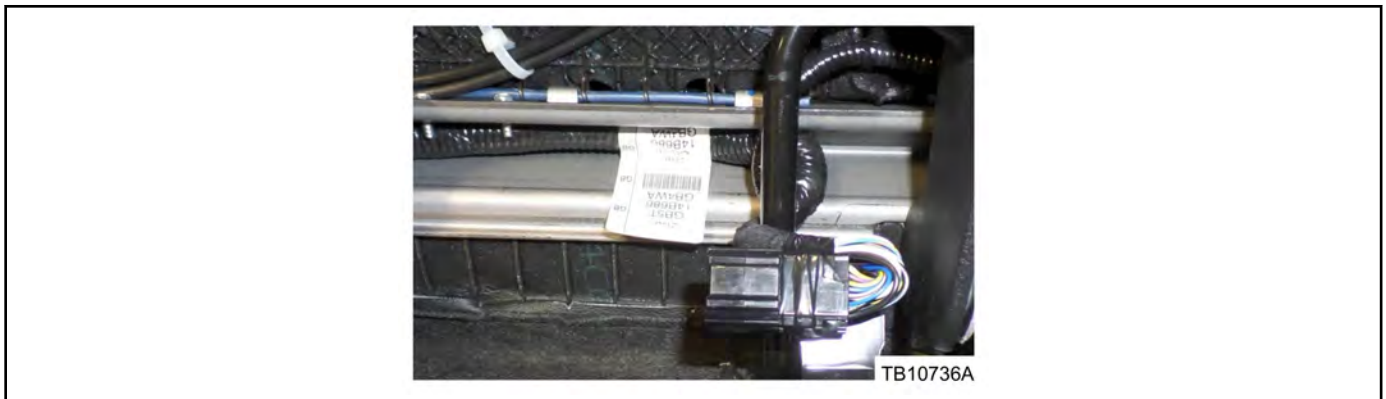

Figure 3 - Article 16-0001
- b. On the male connector create a 15-20 mm (1/2-3/4") loop with the wiring harness and secure the harness to the connector using electrical tape. Make sure the wire loop does not contact the seat trim. Wrap the harness and connectors 3 times to provide harness stress relief and to prevent damage to the connector terminals when the seat is folded forward. (Figure 3)
- g. On the male connector create a 15-20 mm (1/2-3/4") loop with the wiring harness and secure the harness to the connector using electrical tape. Make sure the wire loop does not contact the seat trim. Wrap the harness and connectors 3 times around to provide harness stress relief and to prevent damage to the connector terminals when the seat is folded/tumbled forward. (Figure 3)
- c. On the male connector side, create a 15-20 mm (1/2-3/4") loop with the wiring harness and secure the harness to the connector using electrical tape. Make sure the wire loop does not contact the seat trim. Wrap the harness and connectors 3 times to provide harness stress relief and to prevent damage to the connector terminals when the seat is folded forward. (Figure 3)